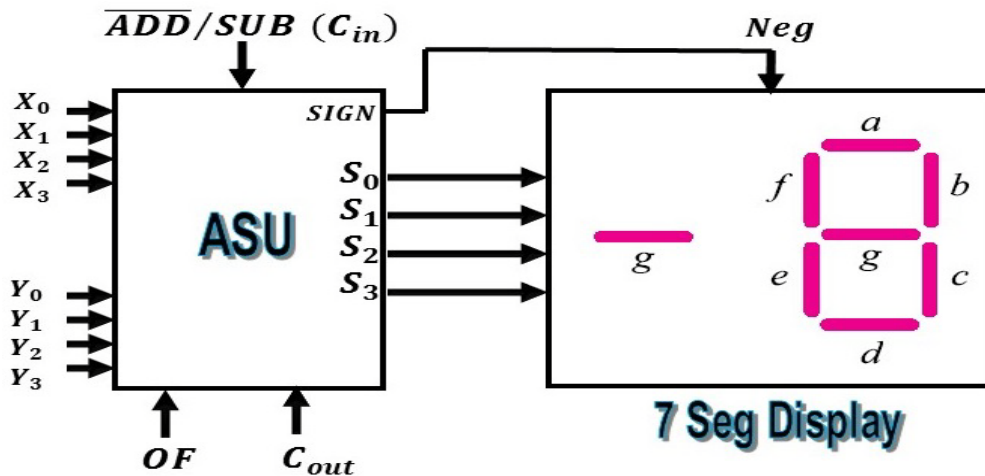

Figure 1. Block Diagram for PART A implementation
6. Complete the wiring and pin assignments by following the connections described in the Figure 1 (Typical Schematic generated using Quartus II depicted in).